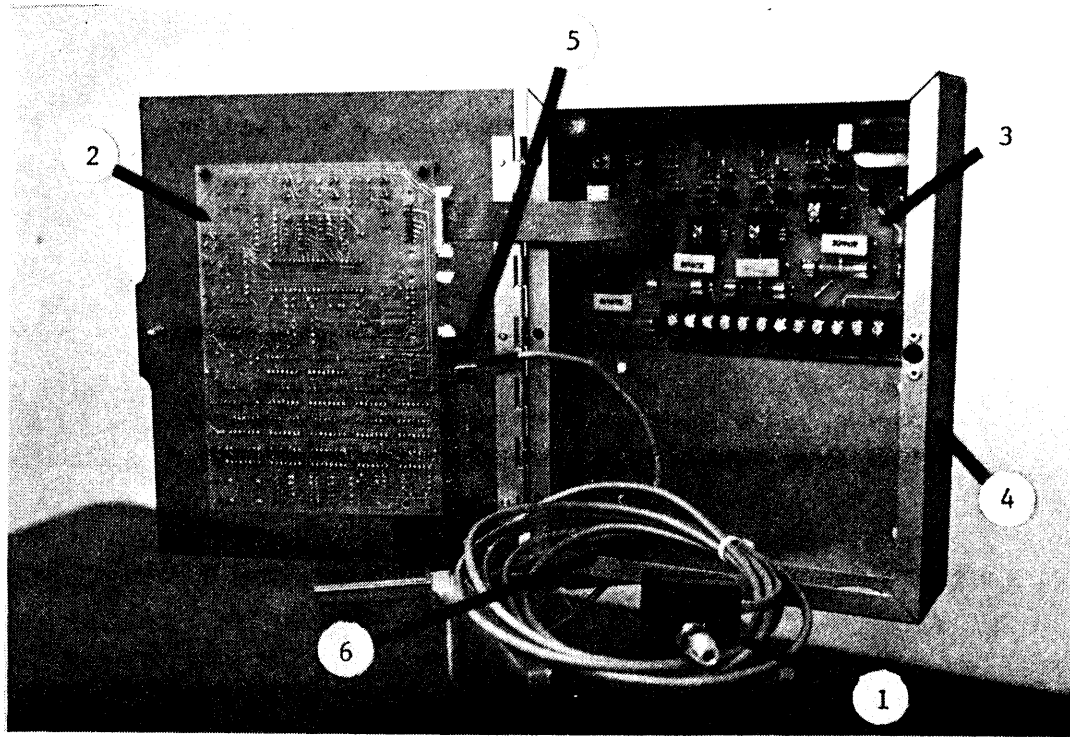
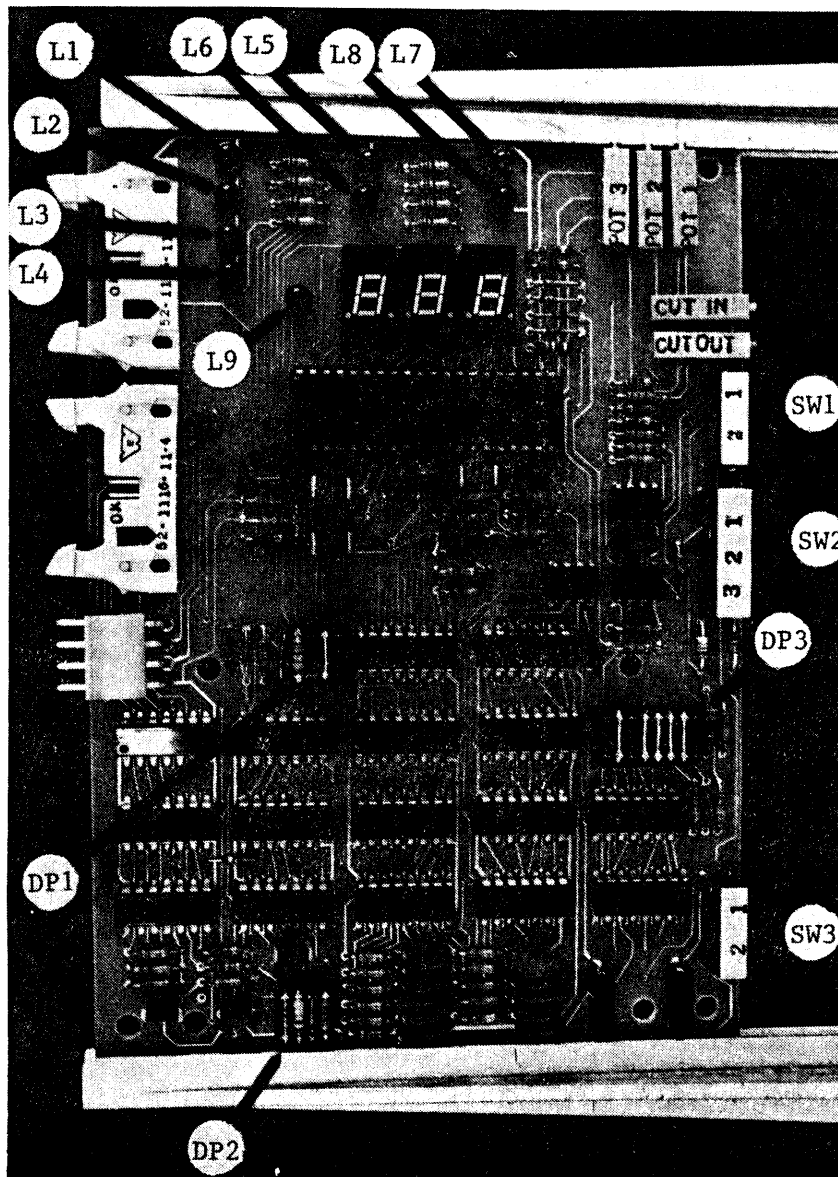
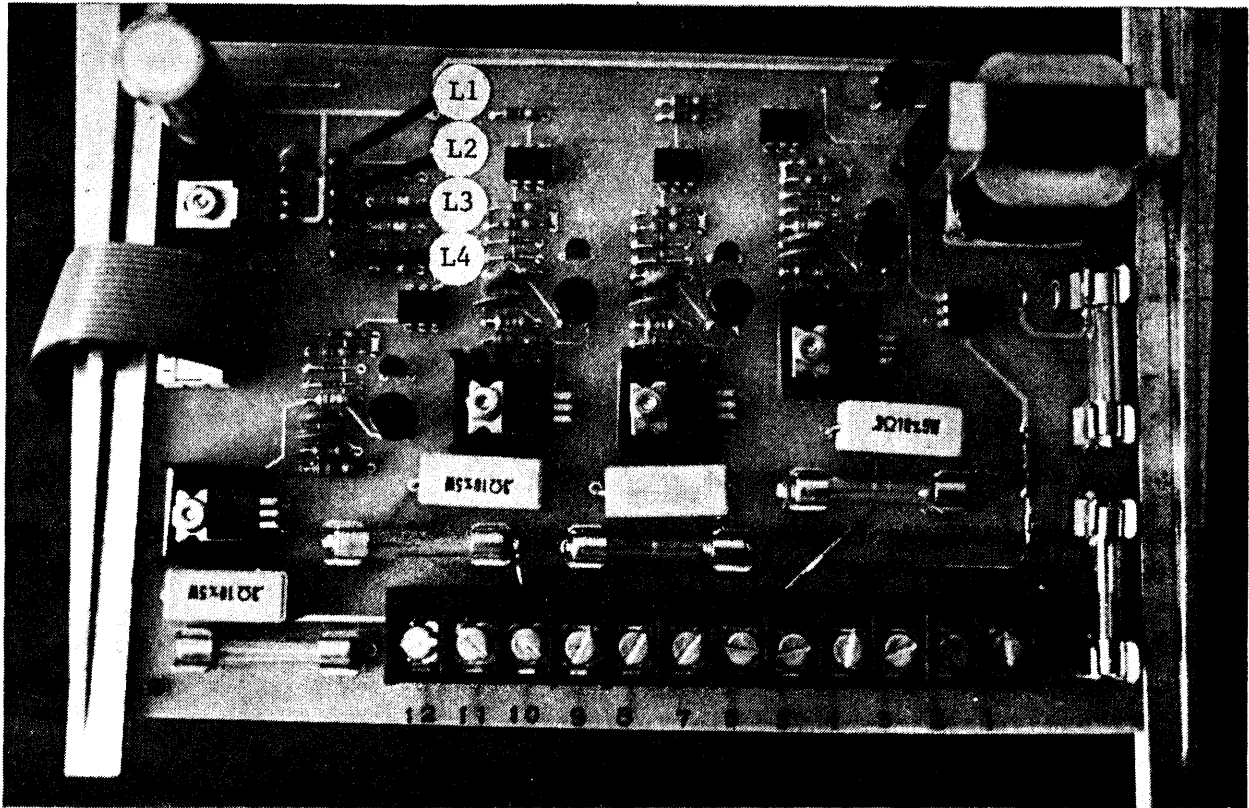

FIGURE 1
FIGURE 4
FIGURE 5
A typical SSPC is shown in Figure 1. It consists of: 1 - Remote Pressure Transducer, 2 - CPU Board, 3 - I/O Board, and 4 - Enclosure with a pop-open hinged door.
Consists of the same components shown in Figure 1 except the I/O board (Item 3) is not as large. The I/O 2 board is shown in Figure 5. The face side of the CPU board (Figure 4) will have a plug in location DP3 with "2 comp" printed right side up. Note that the same CPU board is used for all three basic units, consequently, the light emitting diodes L1,L2,L3 and L4 representing compressors 1,2,3 and 4 respectively will be physically in place on a SSPC-2 even though L3 and L4 should never light. The legend on the cover of an SSPC 2 may even have L3 and L4 identified as compressors 3 and 4. Again check the plug in location DP-3 to determine which type of program is in the control board.
Consists of basically the same components as shown in Figure 1 except the I/O 4 Board shown (also see Figure 5) may be an I/O 3 Board. The I/O 3 Board will be physically the same size as the I/O 4 Board but will have fewer components and will not have terminals 11 and 12. The component side of the CPU Board (see Figure 4) will have a plug in location DP-3 with "3 Comp" printed right side up. The same conditions apply to L4 on the CPU Board (Figure 4) on a SSPC-3 as applied to LED 3 and 4 on a SSPC-2.
Consists of the components shown in Figure 1. The component side of the CPU Board (See Figure 4 will have a plug in location DP-3 with "4 Comp" printed right side up.
- (3.) Whenever the fast timing switch SW3 on the CPU board (See Figure 4) is in position "2".
The standard SSPC has a 3 digit LED display which can display the following with the different positions of SW2 on the CPU board (Figure 4).
CPU board is also equipped with 9 LED status lights (see Figure 4). As described previously, Lights L1-L4 indicate which compressors the SSPC has turned on. The other indicator lights indicate the following:
SW1 on the CPU board (see Figure 4) allows a serviceman to override the SSPC's control of the compressors and turn all compressors on. Position "1" is for normal operation. Position 2 is for SSPC override.